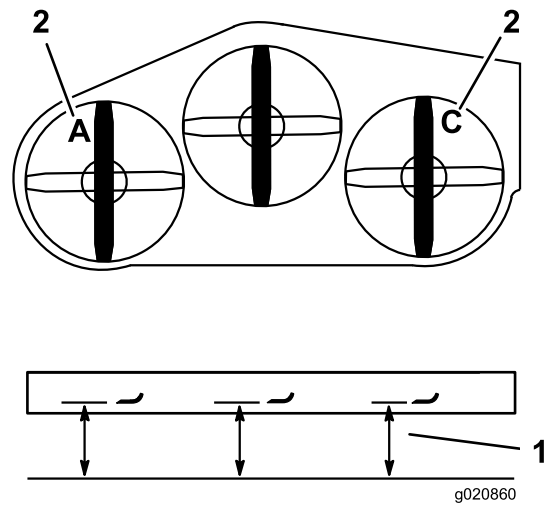

Figure 84
3. Measure the left blade at the **A** location, from a level surface to the cutting edge of the blade tip, and record this measurement (Figure 84).
4. Measure the right blade at the **C** location, from a level surface to the cutting edge of the blade tip, and record this measurement (Figure 84).
7. Adjust the adjustment bolts in the yokes, at locations **A** and **C**, to achieve the correct height (Figure 84).
3. Measure the right blade at location **C**, from a level surface to the cutting edge of the blade tip, and record this measurement (Figure 84).